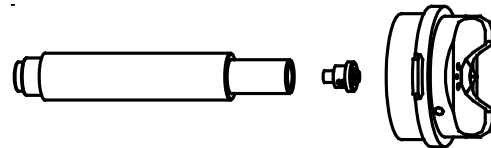

Figure 42d: Seal Installation
5. Insert the seal into the tool as shown in figure 42d. Snap the seal into the tip holder.